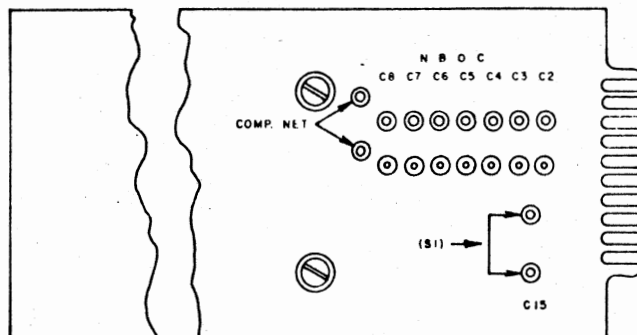

Fig. 4
5.01 Remove the terminating set from the mounting shelf and examine the printed wiring side of the Board (See Fig. 4).